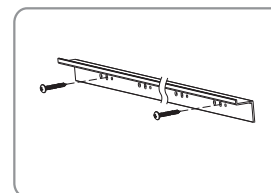

Figure 17
- a) Wood wall mounting: to fix the bracket onto the wall using 2 provided Wooden screws $\varnothing 5 \times 60$. (Figure 17)